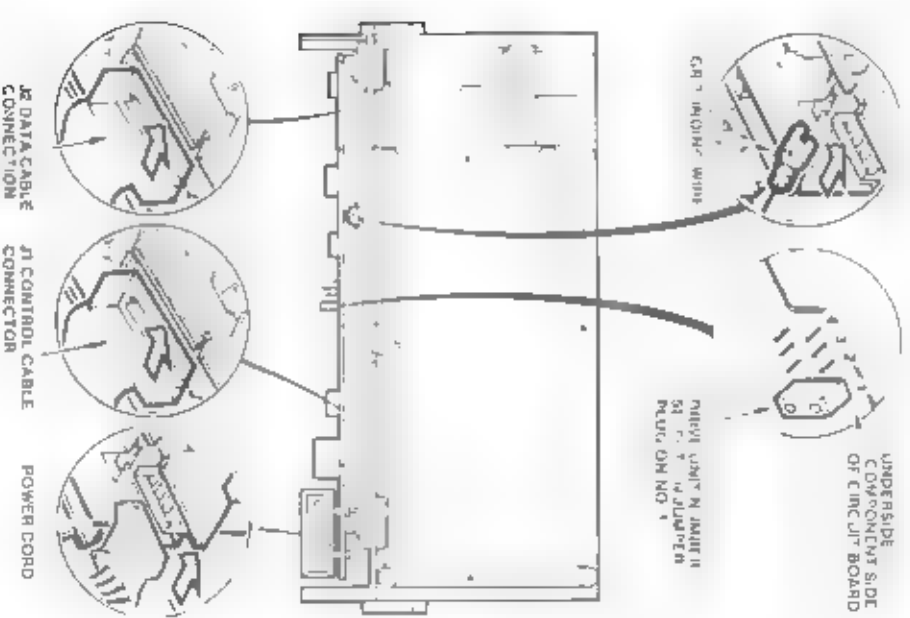

Figure 11-14 Fixed-Disk Drive Connector Locations
The following diagram shows an example of the location of the connectors and jumper plug at the rear of the fixed-disk drive (Figure 11-14). Before installing the fixed-disk drive, verify that the jumper plug for the drive unit number selection is in position.
- 5 A number of multicolored 4-wire connectors come out of the power supply. Attach any available connector to the power connection on the drive (Figure 11-14). The power connector will only attach one way.
- 7 Attach the green ground wire by pushing it onto its tab on the drive (Figure 11-14).
1. Locate the connectors on the rear of the drive unit and set the jumper P ug as shown in Figure 11-14.
7. Attach the narrow data cable and wide control cable. The red stripe indicates pin 1. The stripe faces the controller boards (Figure 11-14).
10. Attach the green grounding wire by pushing it onto its tab on drive D (Figure 11-14).